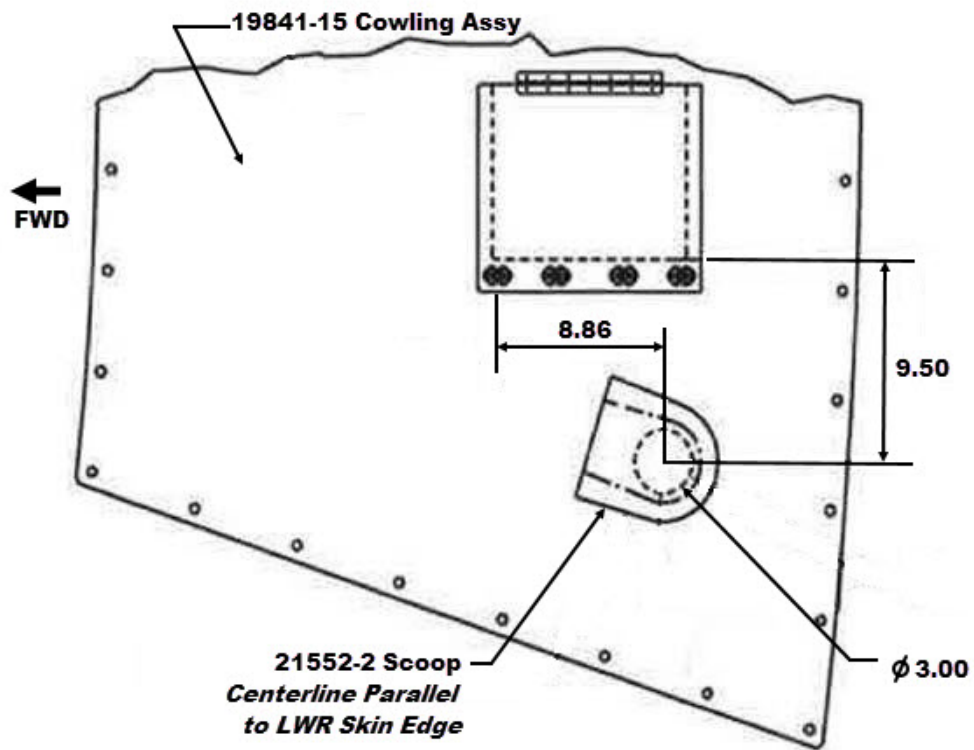

Figure 45-19
- b) Modify the existing Cowling Skin Assy by cutting a 3-inch diameter hole per the dimensions shown in figure 45-19. This hole is required to allow installation of the 21552-2 Scoop.